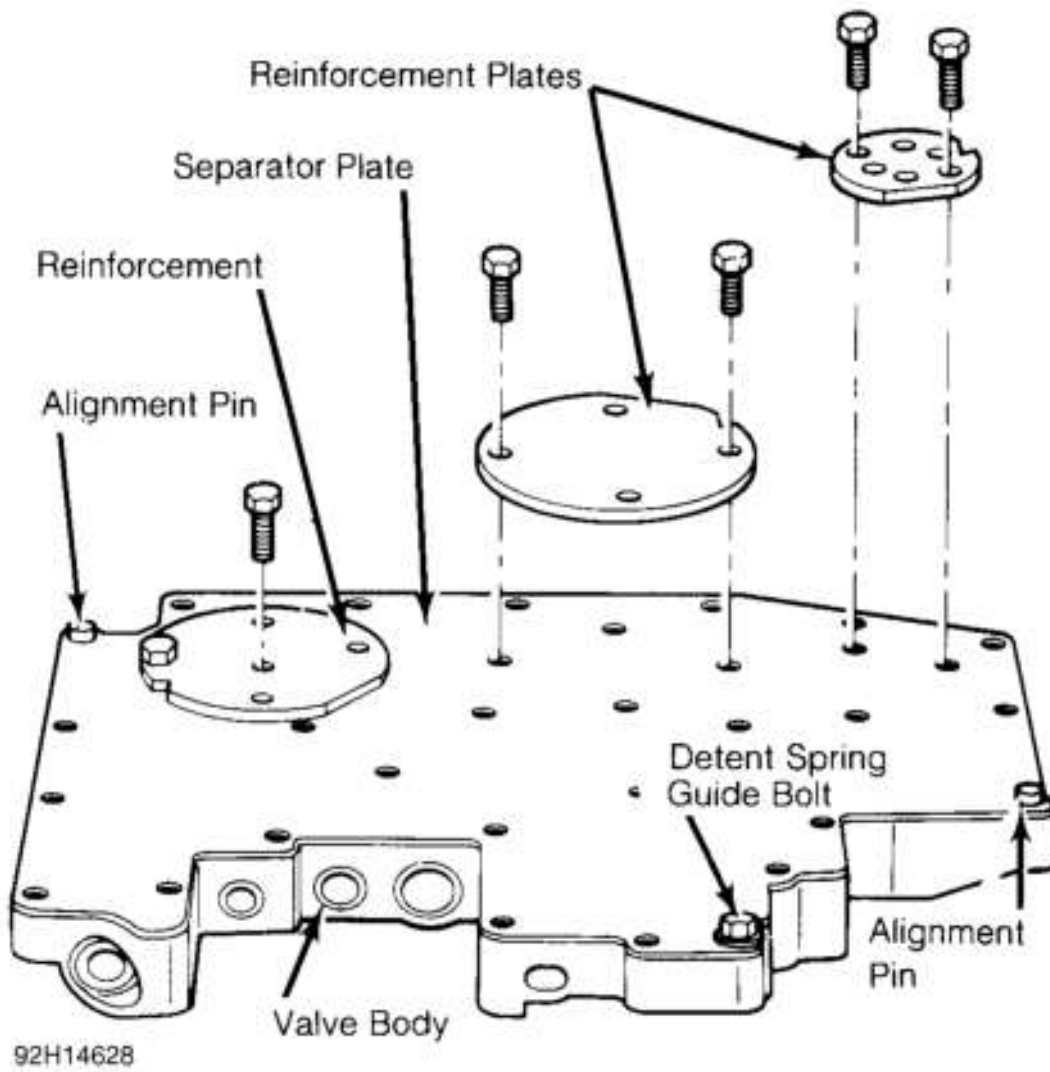

Fig. 45: Identifying Valve Body Plates
4. Install Alignment Pins (T80L-77100-A) into holes. See **Fig. 45** . These 2 holes are smaller than other bolt holes to assure proper alignment of gasket and separator plate with valve body. These 2 holes also align valve body gasket and valve body assembly with case.